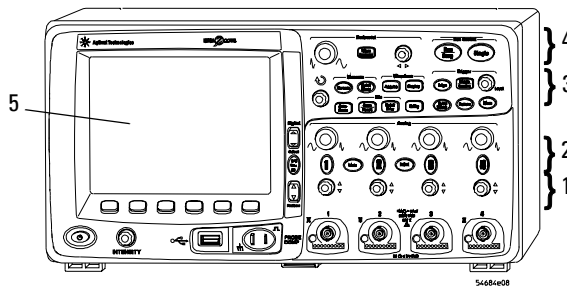

Figure 11 6000A Series start up sequence
- When the oscilloscope is turned on, the front panel LEDs will light up in the sequence shown in Figure 11 on page 85.